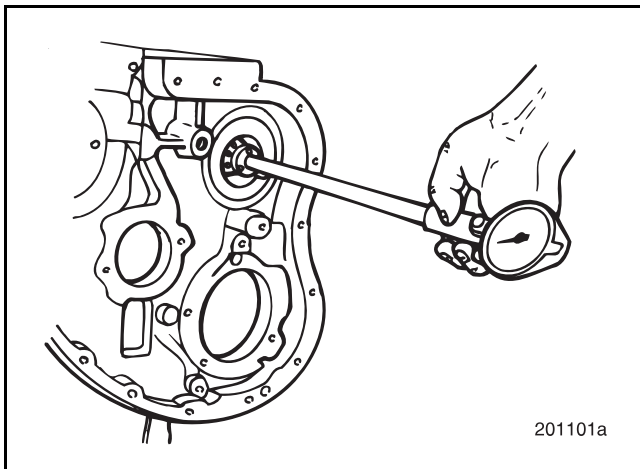

Figure 6-10 — Auxiliary Driveshaft Bushing ID Check
- Using a telescope gauge or inside micrometer, measure the auxiliary bushing bores. Take two readings, perpendicular to each other, in each bore. Record the readings. Refer to Figure 6-10.